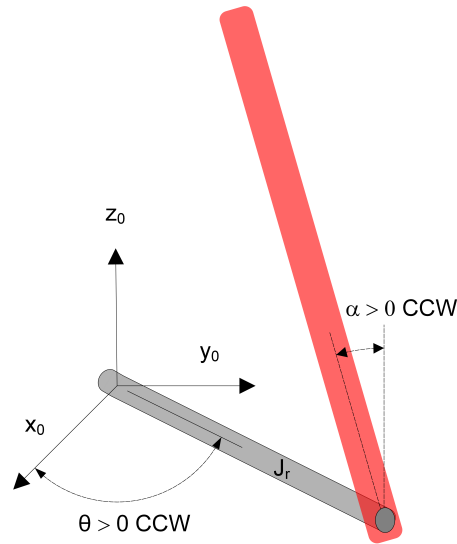

Figure 1.1: Model conventions of rotary pendulum
The rotary pendulum system, also known as the Furuta Pendulum, is a classic system often used to teach modeling and control in physics and engineering. The convention used for the modeling of the QUBE-Servo 2 rotary pendulum is shown in Figure 1.1.
10. Rotate the pendulum to the upright vertical position and ensure the angle is measured correctly and it follows the model conventions shown in Figure 1.1. Capture the response of the pendulum being raised to the inverted position. Explain what the bias and modulus functions do?